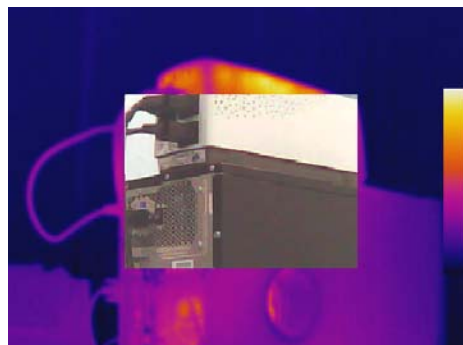

Fig. 45: Setting and displaying the IR_MIX_VIS image
- **IR_MIX_VIS** → Display of visible image in the middle of the screen/full screen of the IR image with the possibility of choosing the percentage value of the visible level (see Fig. 45).